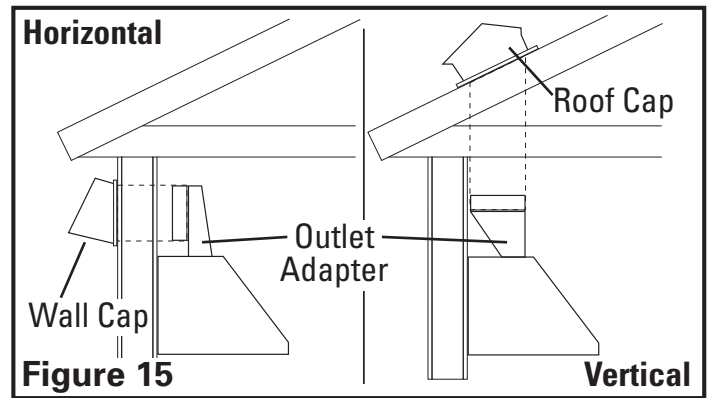

Figure 15
7. Determine the type of ducting you will require (**Figure 15**).
NOTE: When the duct termination is similar to that shown in figure 15 (passing through the wall to which the hood is mounted) the installation requires special consideration. Depending upon where the wall studs are located, it may be necessary to cut one or more of the wall studs and install a header and footer to transfer the load to the adjacent studs. Additional studs may need to be framed into the opening to attach dry wall or secure the hood. If this is your situation Air King recommends that you hire a professional and comply with all applicable codes.